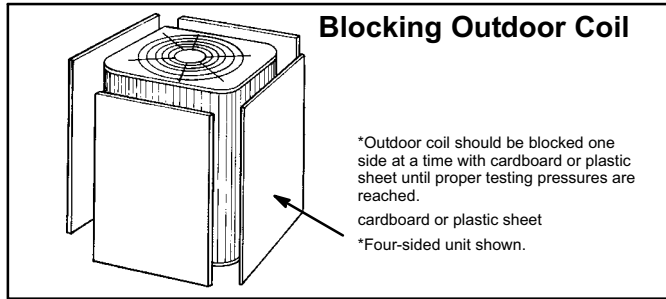

FIGURE 12
1. Restrict the airflow (see figure 12) through the outdoor coil to achieve pressures from 325-375 psig (2240-2585 kPa). These higher pressures are necessary for checking the charge. Block equal sections of air intake panels and move coverings sideways until the liquid pressure is in the above noted ranges.